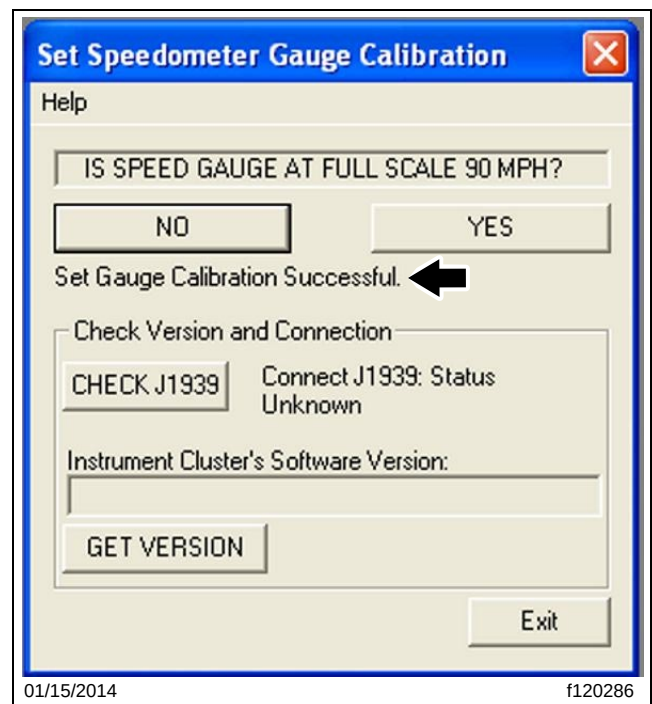

Fig. 4, Verifying the Speedometer Gauge Calibration
11. Click "NO." This will program the new speedometer calibration. When the calibration is completed a verification message will read "Set Gauge Calibration Unsuccessful," or "Set Gauge Calibration Successful." See **Fig. 4**.
12. Click "YES." A verification will run to confirm the speedometer calibration is programmed correctly. See **Fig. 4**.